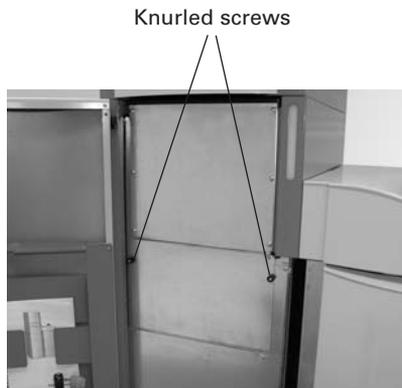

Fig. 138 Removing the knurled screws
- Remove both knurled screws and carefully take off the bottom inspection cover. Pellets may gush out depending on how high a level of them there is - Fig. 138.